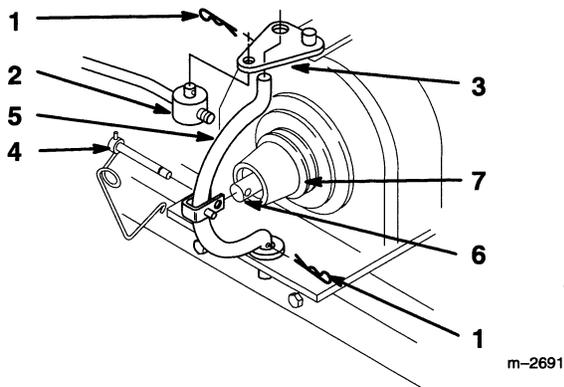

Figure 16
4. Remove hairpin cotters from trunnion and bottom of yoke (Fig. 16).
5. Unlatch and remove locking clevis pin that secures yoke assembly to clutch shaft. Pivot yoke out and forward to remove from clutch shaft and engagement plate (Fig. 16).
6. Remove belt from pulley (Fig. 16).
7. Assemble yoke and engagement plate and attach locking clevis pin, trunnion and hairpin cotters to secure (Fig. 16).